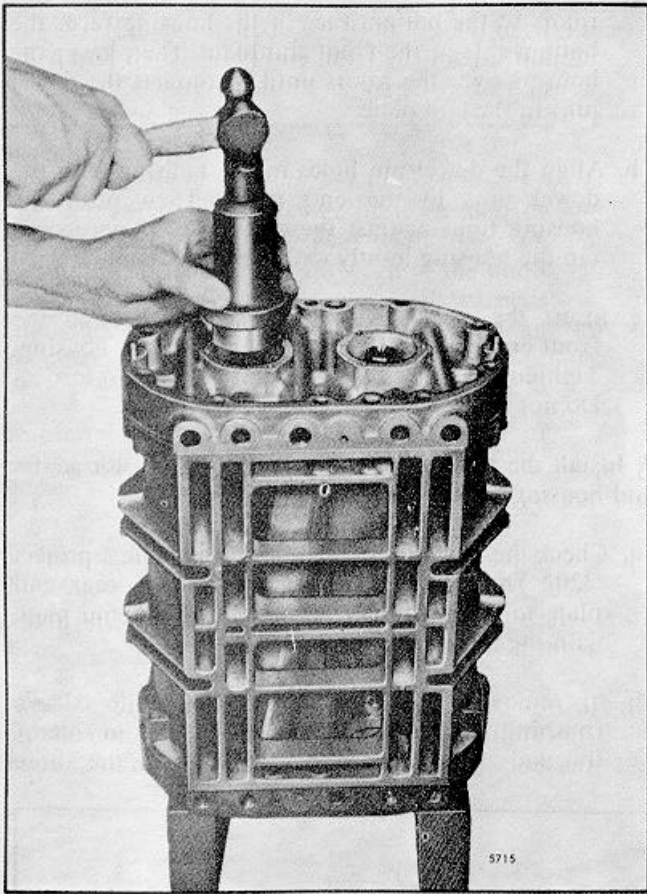

FIG. 16 - Installing Roller bearings on Rotor Shafts and in Front End Plate using Tool J 6270-13
- a. Reverse the position of the blower housing on the two wood blocks (Fig. 16).
- b. Place installer J 6270-13 on top of the bearing and tap the bearing straight on the shaft and into the front end plate as shown in Fig. 16.